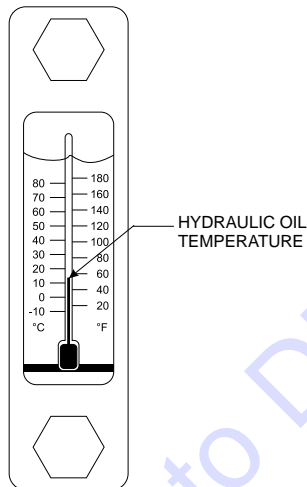

Figure 29. Hydraulic Oil Temperature Gauge
5. Let the pump cycle until the hydraulic oil temperature (Figure 29) is approximately 50° to 60° F.